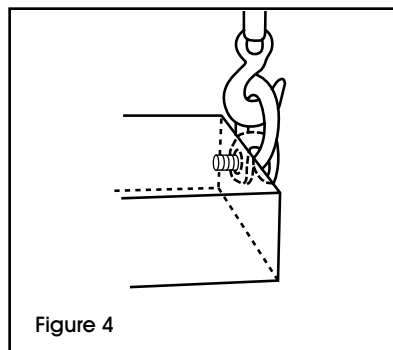

Figure 4
- Slings shall be securely attached to their loads. (See Figure 4)